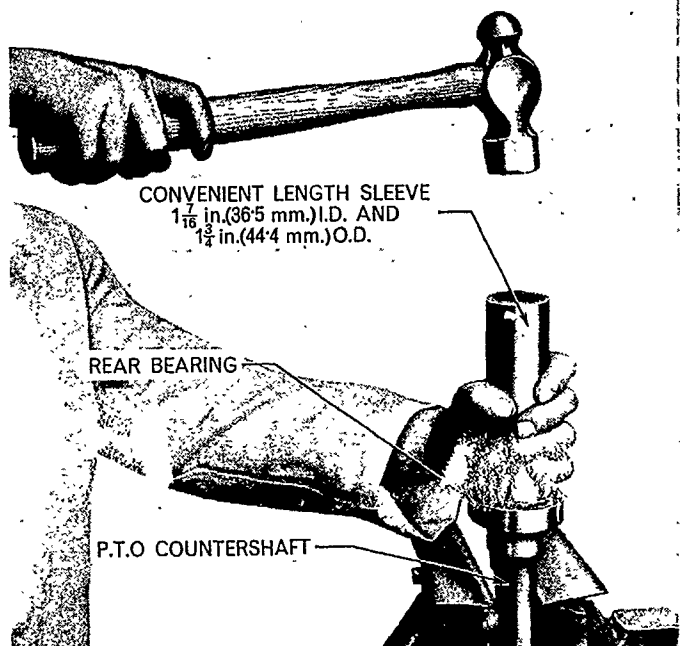

Figure 19
3. Drive a new rear bearing onto the P.T.O. countershaft using a convenient length sleeve $1\frac{7}{16}$ in (36.5 mm) I.D. and $1\frac{3}{4}$ in (44.4 mm) O.D. and a hammer, Figure 19.